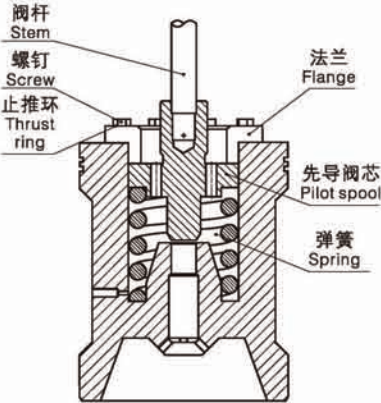

图24 先导阀芯
1.6、先导阀芯部件的拆卸与更换（见图24）
Disassembly and replacement of pilot valve element components (see Figure 24)
Figure 24 pilot valve element